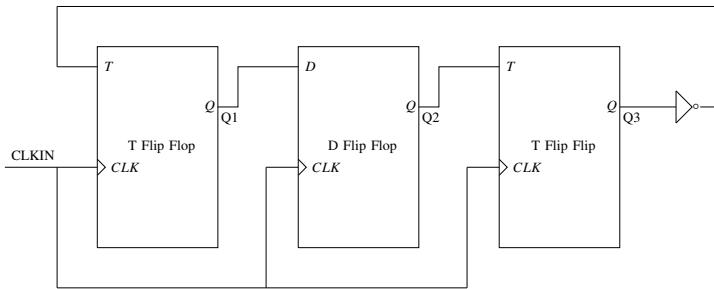

Fig. 5.11
11. Consider a sequential digital circuit consisting of T flip-flops and D flip-flops as shown in Fig. 5.11. CLKIN is the clock input to the circuit. At the beginning, Q₁, Q₂ and Q₃ have values 0, 1 and 1, respectively.